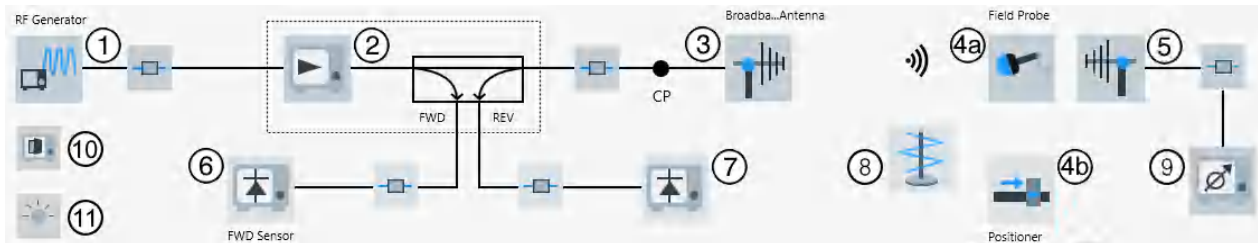

Figure 4-159: EMS hardware setup diagram (radiated) for a Reverberation Chamber in Calibration View
- The "Calibration View" (see Figure 4-159)